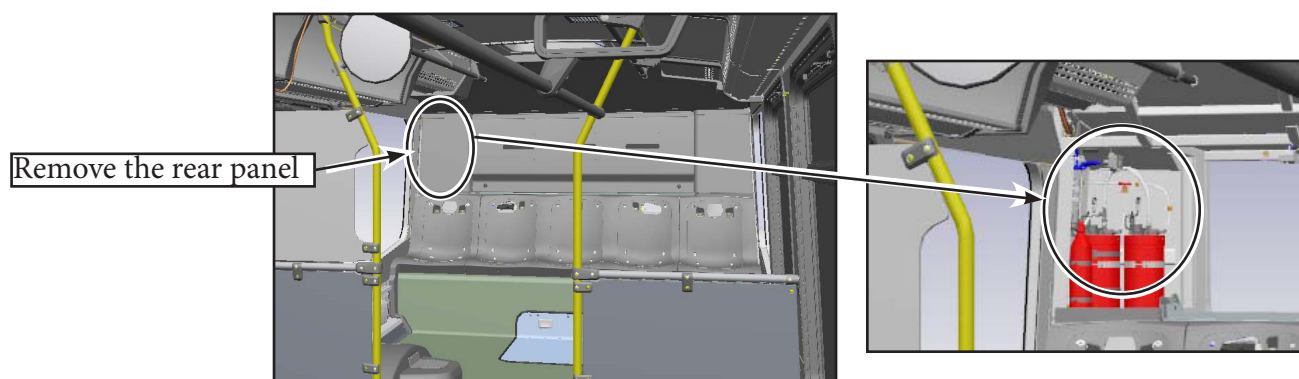

Figure 15 - Remove the Rear Panel
- 2.2. Remove the rear panel to access the Fire Suppression System (FSS) area (see Figure 15).